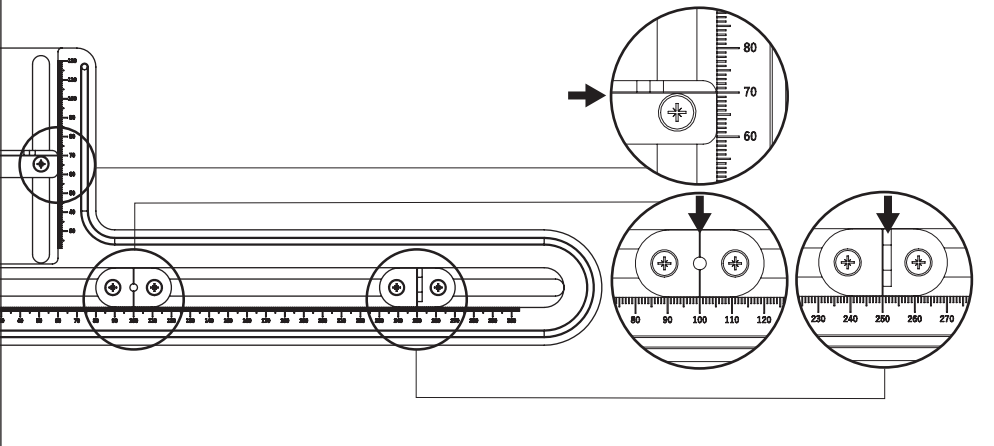

Fig. 3
- Loosen the Short Guide M4 Machine Screws to allow the Short Guide to slide freely (Fig. 3).